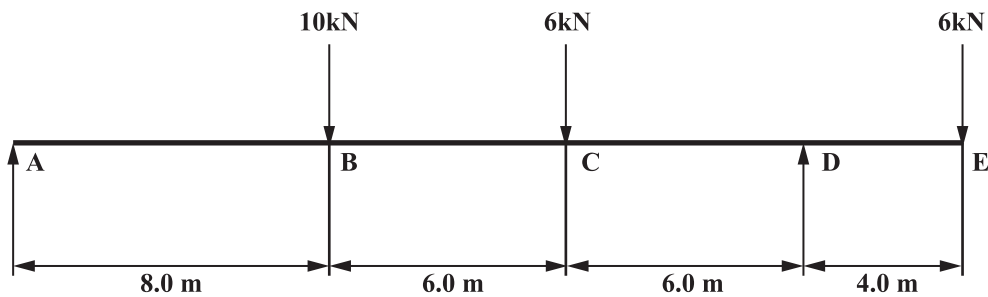

Figure 1. Beam
- (b) Figure 1 shows a beam that is overhanging the right-hand support, D. There are three concentrated loads acting at B, C, and E.